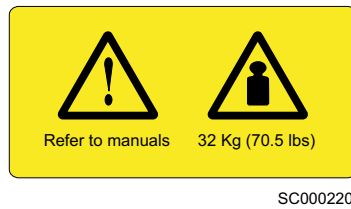

Figure 5. 2104 Model DS4 weight label
5. Verify that the weight label is installed on the 2104 Model DS4. See Figure 5.